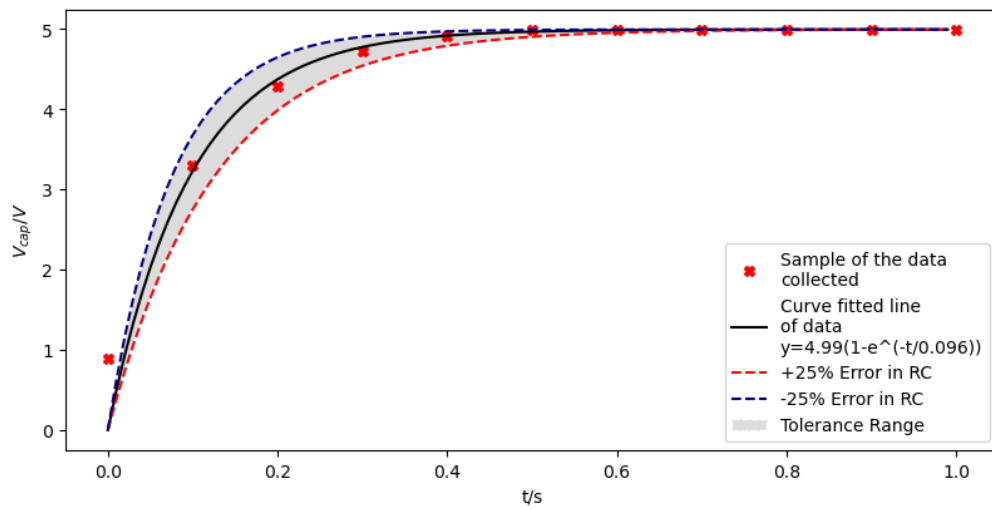

Figure 7 - Time Domain results
Using this table, and the Python Library, SciPy to do a curve fit with the data and use the previously calculated tolerance in RC to plot two extra lines representing a  $\pm$  error in RC, as shown in *Figure 7*.
*Figure 7* accurately portrays the behaviour of a capacitor charging where there is a large rate of increase in  $V$  initially which slowly reduces over time resulting in a constant voltage, when it is fully charged.
*Figure 7* also demonstrated that the measured values were within the error lines, hence the error in  $RC$  did not affect my results that much since it was so low